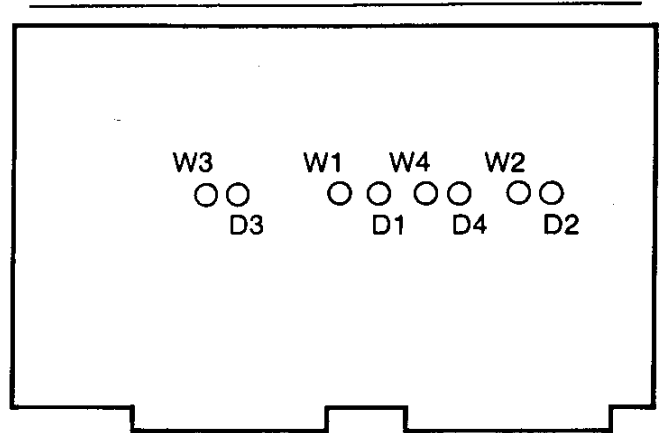

Figure 6.9 Adjustments
4. Repeat procedure for  $\emptyset 2$ ,  $\emptyset 3$ , and  $\emptyset 4$ . See Figure 6.9 and Table 6.2.